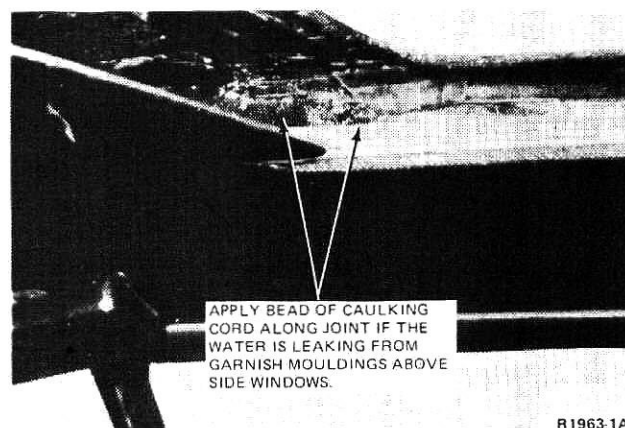

FIG. 29 Sealing Module-To-Roof Panel
1. Module is not sealed to underside of roof panel at the rear of the opening. Apply caulking cord in joint between roof panel and module as shown in Fig. 29.